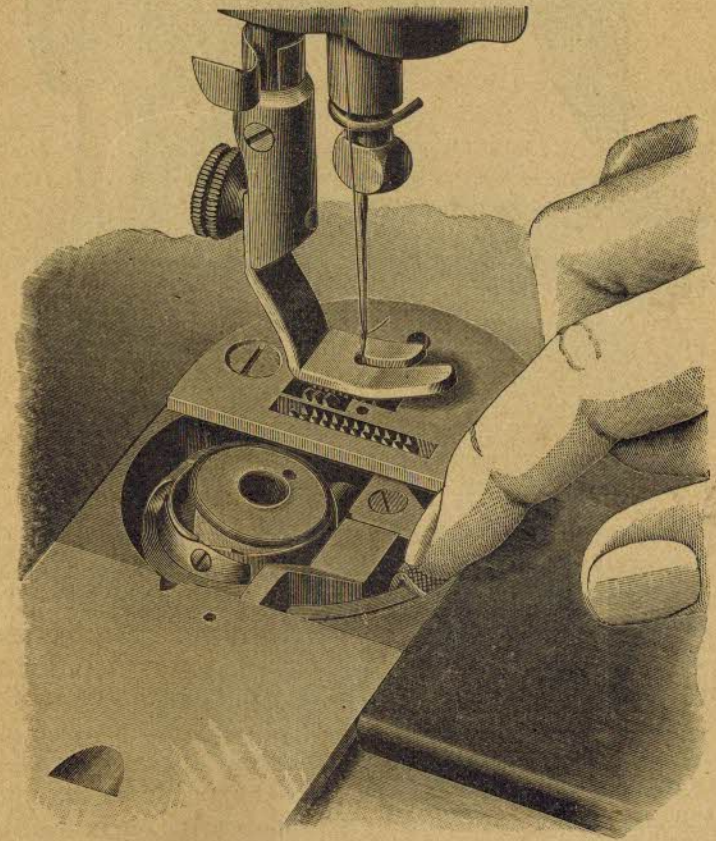
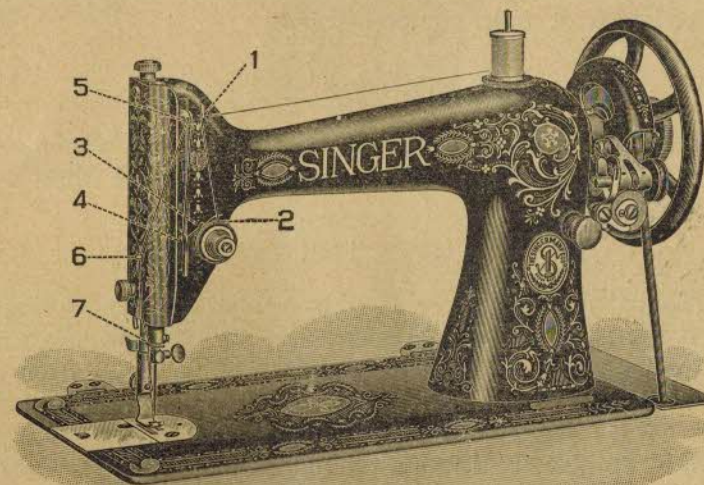

FIG. 2
FIG. 4
Draw out the slide in the bed plate and press the forefinger of the right hand upon the bobbin ejector, a small roughened piece at the side of the opening nearest you (see Fig. 2); this will raise the bobbin so that it can be easily taken out.
The thread to be wound on the bobbin may be taken from the same spool as that used for the upper thread, or another spool may be used; in the latter case take off the spool in use and put the other on the spool pin. Release the balance wheel by turning the stop motion over toward you; lead the thread into the wire guide (see 1, Fig. 4), then into the thread guide in the lower end of the guide finger of the bobbin winder, then into the upper guide in the same finger; pass the end of the thread into the hole in the left hand side of the bobbin and place the bobbin on the spindle so that the hole in its other side will slip over the pin in the flange on the spindle; then press downward upon the bobbin winder, until the hook catches and holds it in position and the flat portion of the latch lies between the flanges of the bobbin. Now take hold of the end of thread projecting from the hole in the bobbin and proceed to wind, turning the balance wheel over toward you; after a few turns the end of thread held in the hand should be broken off; when the bobbin is filled the bobbin winder stops automatically and the bobbin can be taken off and replaced in the bobbin case. It is important that it should be placed so that the left hand side, as it lies in the case, will turn toward you. Now draw the
Place the spool of thread upon the spool pin on the arm; lead the thread into the wire guide (see 1, Fig. 4) down, under and from right to left between the tension discs (2), into the small wire spring (3) at the left of the discs, under the slack thread regulator (4) at the left, up and from right to left through the hole (5) in the end of the take-up, down into the eyelet (6) in front of the face plate, into the wire guide (7) on the sleeve in which the needle bar moves, then from left to right through the eye of the
The under tension is regulated by a small screw and spring on the left-hand side of the bobbin case (see Fig. 2); turn this screw over toward you to make the thread draw off harder, or from you to make it draw easier; after this tension has been once properly adjusted it is rarely necessary to change it, as a correct stitch can usually be obtained by varying the tightness of the upper thread; the upper tension discs are separated and inoperative when the presser foot is raised, therefore it is necessary to have the foot down when regulating this tension; it is regulated by the thumb screw, spring and discs, on the arm directly in front (see 2, Fig. 4); turn the thumb screw over to the right to make the upper thread tighter, or to the left to make it looser.